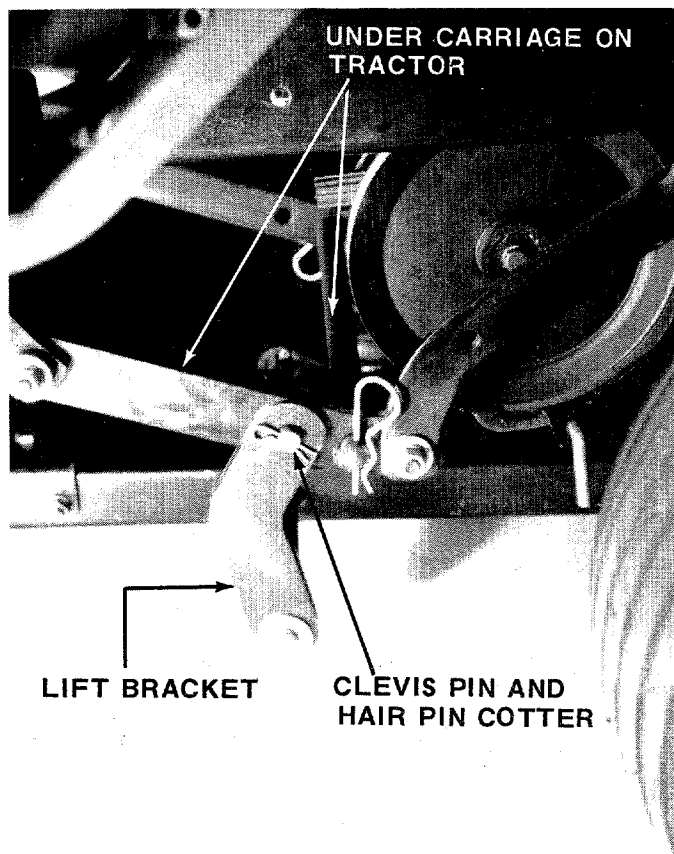

FIGURE 8
4. Attach the lift brackets to the under carriage on the tractor. See figures 8 and 9.
Lift brackets straddle the under carriage. See figure 8.
5. Secure in position with clevis pin and hair pin cotter. See figure 8.